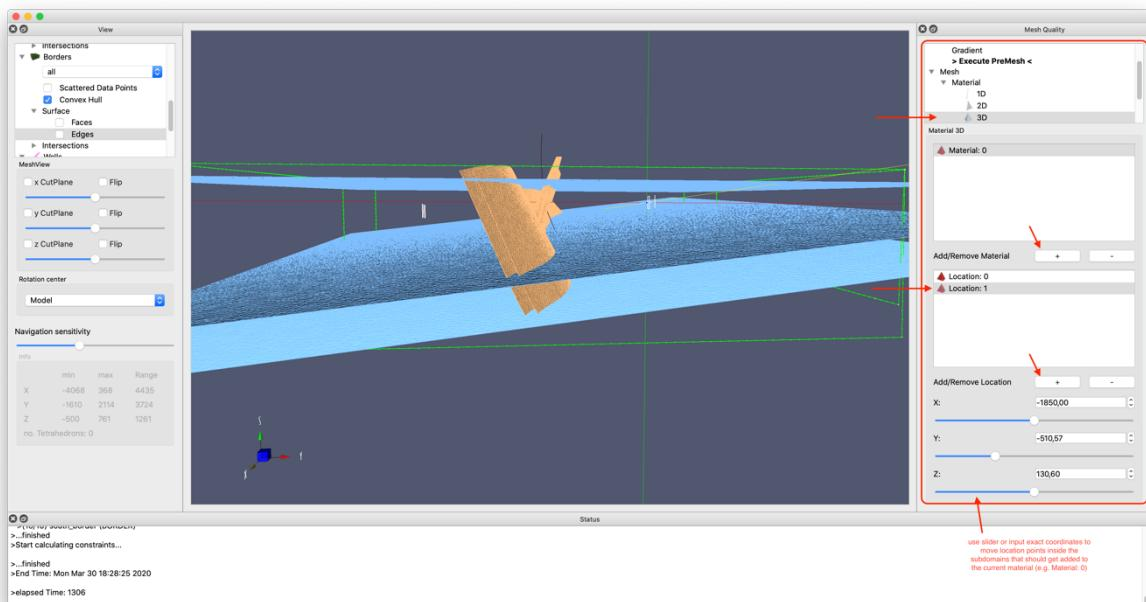
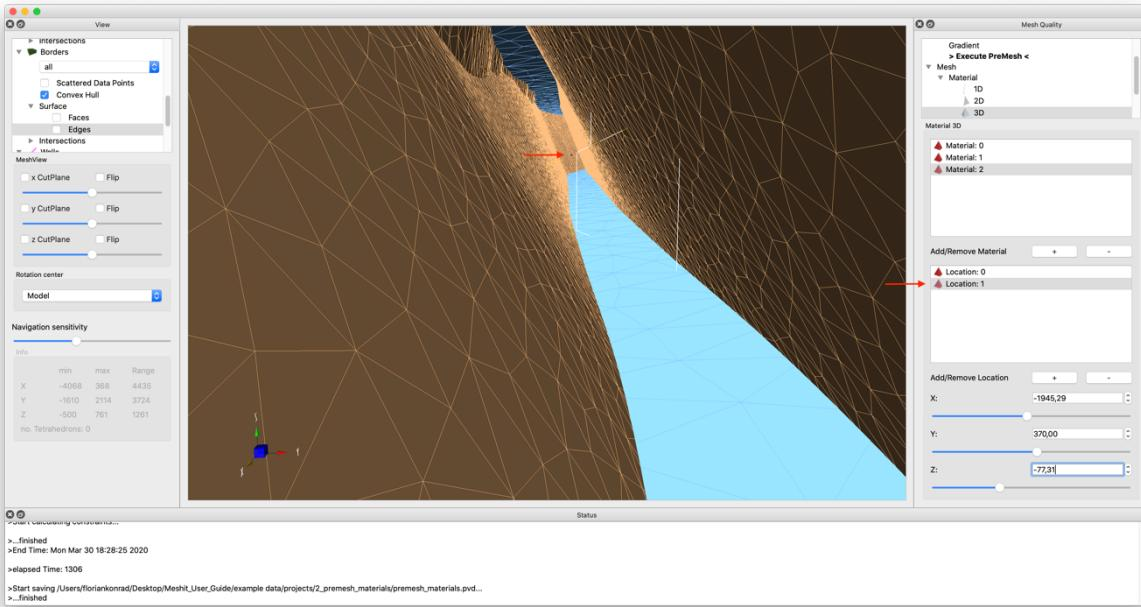

Figure 5 3D material menu
Figure 7 Example for small subdomain inside fault zone and its material location point
**Quality Panel → Mesh → Material → 3D → Add Material → Add Location → Move point with x,y,z slider or input exact coordinates** (see Figure 5 and Figure 7)